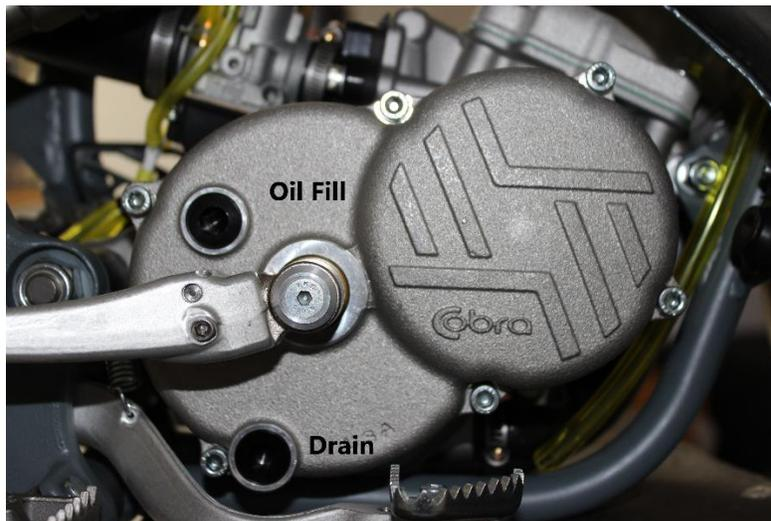

Figure 1
2. Remove the oil drain plug located on the right side of the engine, on the clutch cover, near the brake lever (figure 1).